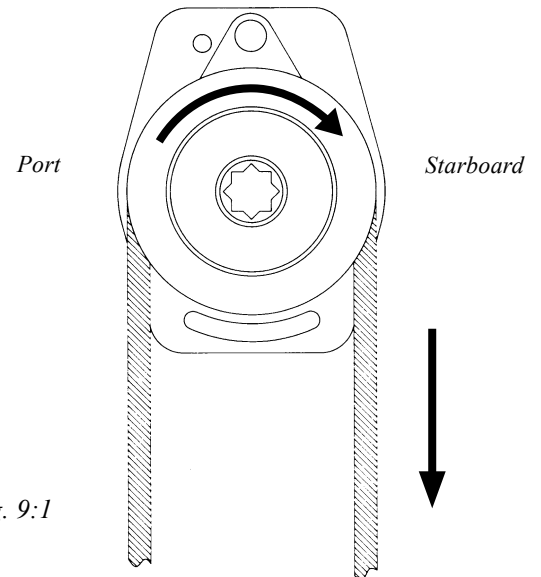

Fig. 9:1
8. Furl the sail until only 200-300 mm of the clew is exposed. The line driver should be turned clockwise. (See Fig. 9:1).
1. Check that the sail is correctly furled on the STARBOARD SIDE of the luff extrusion. (See Fig. 9:1).